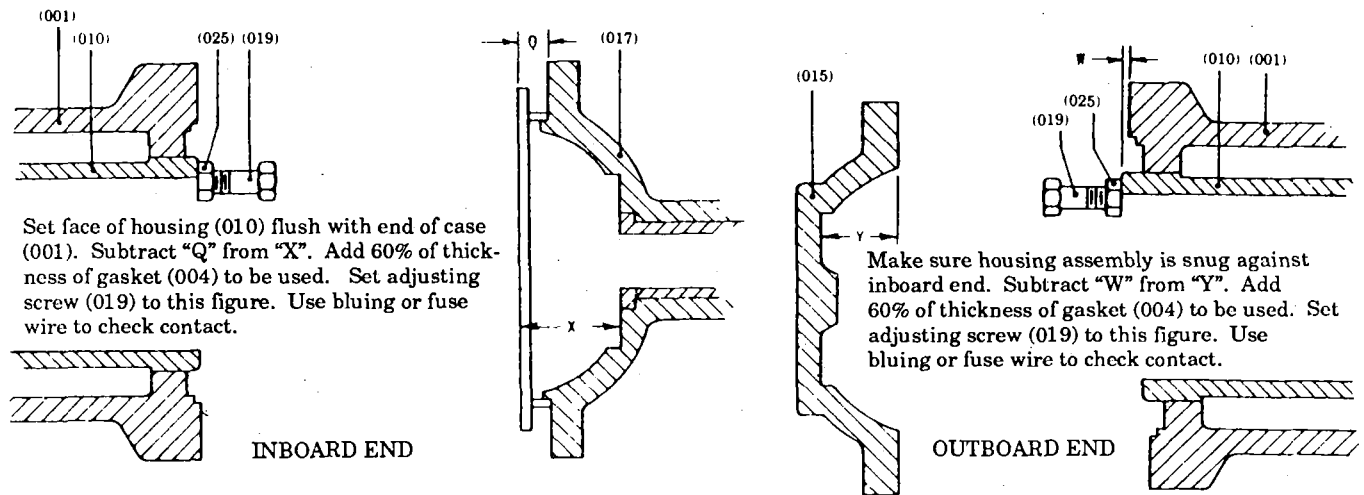
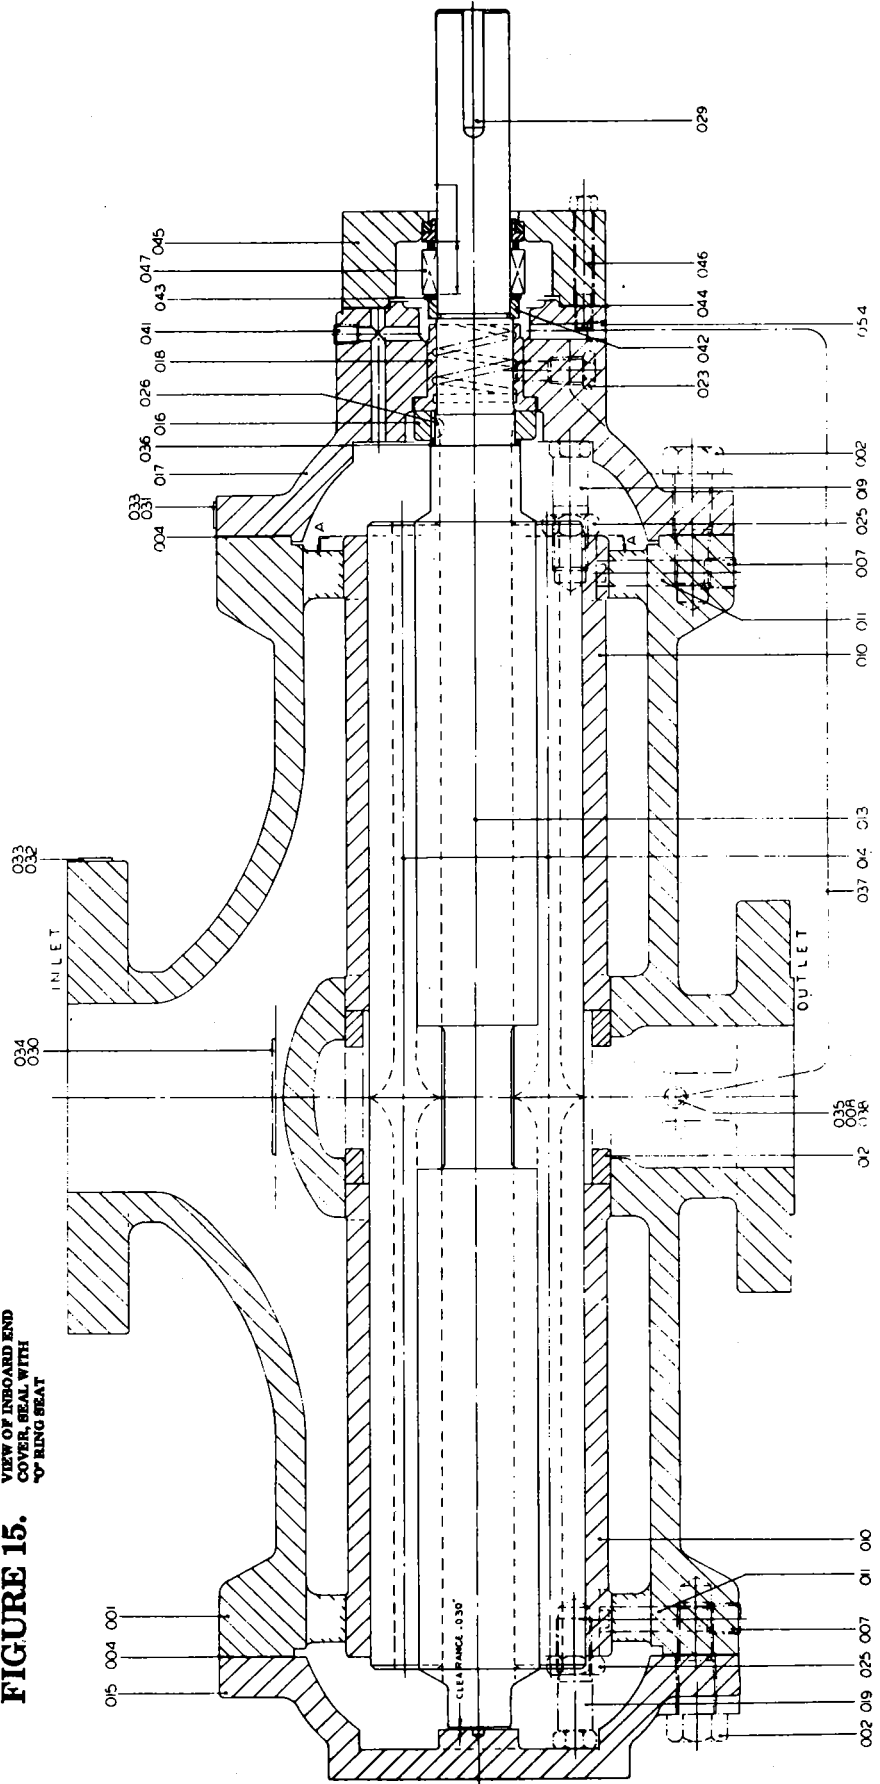

FIGURE 5. Setting of Housing Adjusting Screws.
FIGURE 14. 424A PUMPS
STEP 8. Slide housings (010) from the pump case (001). Slide spacer ring (012) from the pump case.
STEP 9. If outboard housing (010) is being replaced, loosen jam nuts (025) and remove adjusting screws (019). NOTE: Figure 14 pumps are equipped with adjusting screws on each end of pump housing that must be removed if housings are replaced.
Figure 14 only: Housing adjusting screws (019) at inboard and outboard ends of pump should be set following directions outlined in Figure 5. Set adjusting screws and verify correct adjustment on inboard end before adjusting outboard end. To verify setting of inboard end adjusting screws (019), place blueing or fuse wire on adjusting screw heads and install inboard cover (017) with gasket (004) and bolts (002). Tighten bolts (002) to approximately 50 ft. lbs. Remove inboard cover and verify adjusting screw contact on inboard cover. When correct adjustment is confirmed, install gasket (004) and inboard cover (017) using bolts (002). Torque bolts (002) to 170 lbs. ft. (+- 10 lbs. ft.) on rotor sizes 231 and 250 or 85 lbs. ft. (+- 5 lbs. ft.) on rotor size 162 and 187. Perform procedure for outboard end following directions in Figure 5 and check adjustment using outboard cover (015), gasket (004) and bolts (002). When adjustment is correct, install gasket (004) and outboard cover (015), using bolts (002). Torque bolts (002) to 170 lbs. ft. (+- 10 lbs. ft.) on rotor sizes 231 and 250 or 85 lbs. ft. (+- 5 lbs. ft.) on rotor sizes 162 and 187. **Caution:** Do not exceed 0.003" pressure on adjusting screws (019) to avoid distortion of rotor housings bores.